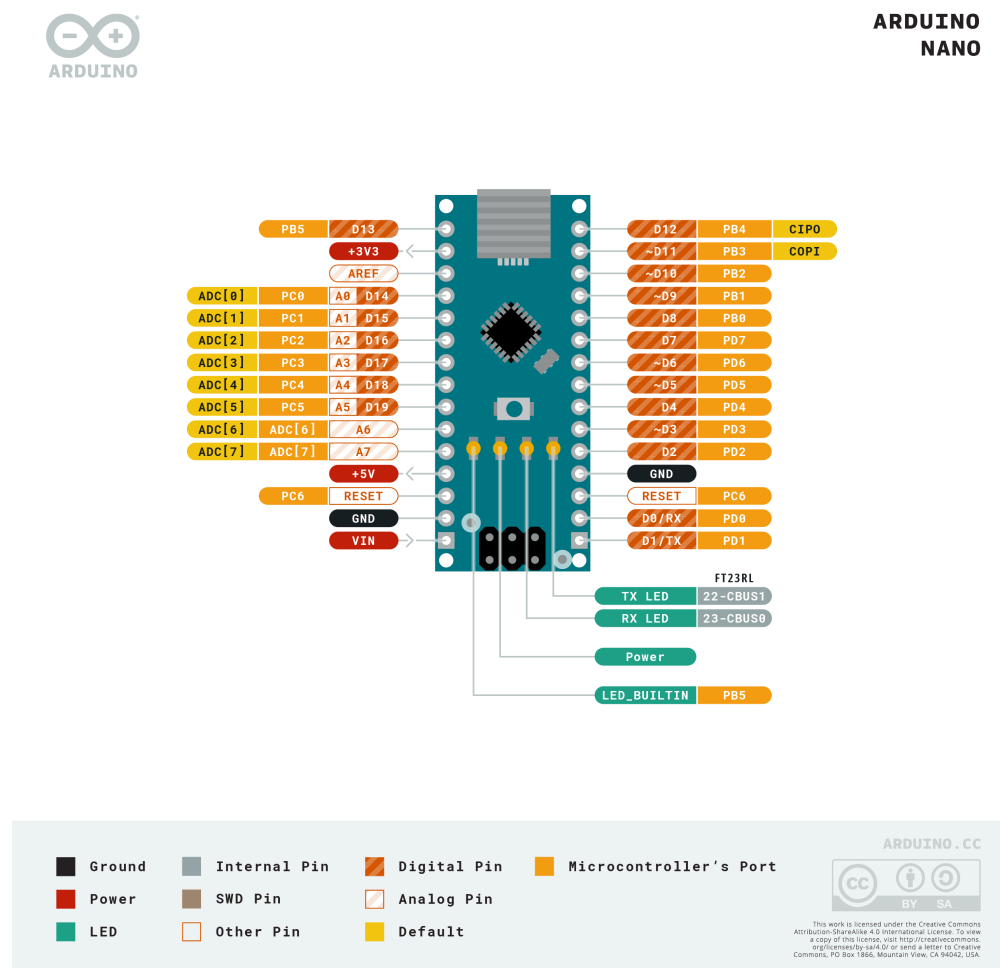

Figure 2: Pinout for Arduino Nano. The “Digital Pin” numbers (D2, D3, etc...) correspond to the numbers used in functions such as `pinMode` and `digitalWrite`.
**Figure 2** depicts the pinout diagram for the Arduino Nano. The pinout diagram summarizes the capabilities of the Arduino Nano and depicts the mapping between the physical pins on the microcontroller and the aliases given to the physical pins in software. For example, the digital pin “D2” is represented by the integer “2” in an Arduino program.
**Figure 2** also depicts some pins that can't be interacted with via software, but are useful nonetheless. The +3V3 and +5V pins provide power, while the GND pins provide a ground reference. The VIN pin stands for “Voltage In”, and it used to supply 5V externally when you aren't providing the microcontroller power over USB. The “Reset” pins are used to restart the program on the Arduino Nano using an external signal.